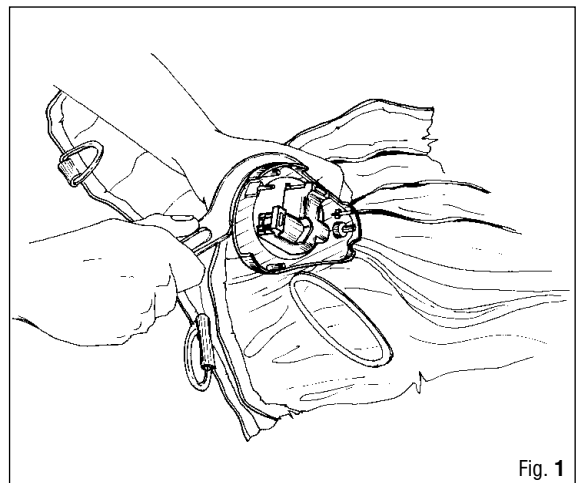

Fig. 1
3. Use the special wrench (C-4) (or a 12-mm open end wrench) to unscrew the male quick coupling (18) and extract the fabric filter (16).
4. Remove the O-Ring (17) from the male coupling (18).
5. Using a pin wrench if necessary (USAG type 282/58-62-65), unscrew the lower casing (12) (Fig. 1).
WHILE UNSCREWING THE LOWER CASING, IT IS RECOMMENDED THAT YOU BLOCK THE INNER PART OF THE PNEUMATIC INFLATOR (Fig. 1).